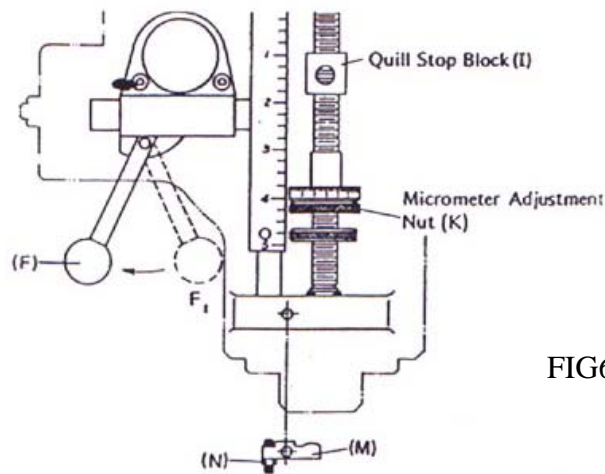

FIG6-4
- a. Loosen the quill lock (L).
- c. Feed speed is in three stages. H, L and M. selection may be made by quill feed selector (C).
- d. Pull the feed control lever (F) from (F1) to (F2) position (FIGURE 6-4) to engage the overload clutch for automatic feed mechanism.
- f. As shown in (FIGURE 6-4), the working depth may be set by micrometer adjustments nuts (K) (each graduation is 0.001" or 0.02 mm). When the quill stop block (I) contacts the micrometer nut (K), the feed control lever (F) may simply jump from (F2) back to (F1) position owing to the connecting motion between the feed trip lever and feed trip plunger. This will disengage the overload clutch and stop the spindle feed.